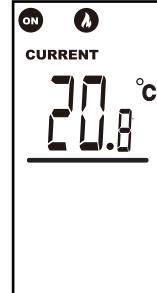

Fig.5
Press and hold ⑤ button for 3 seconds to switch to ALWAYS ON mode, target temperature disappears, ON symbol will be displayed (Fig. 5).